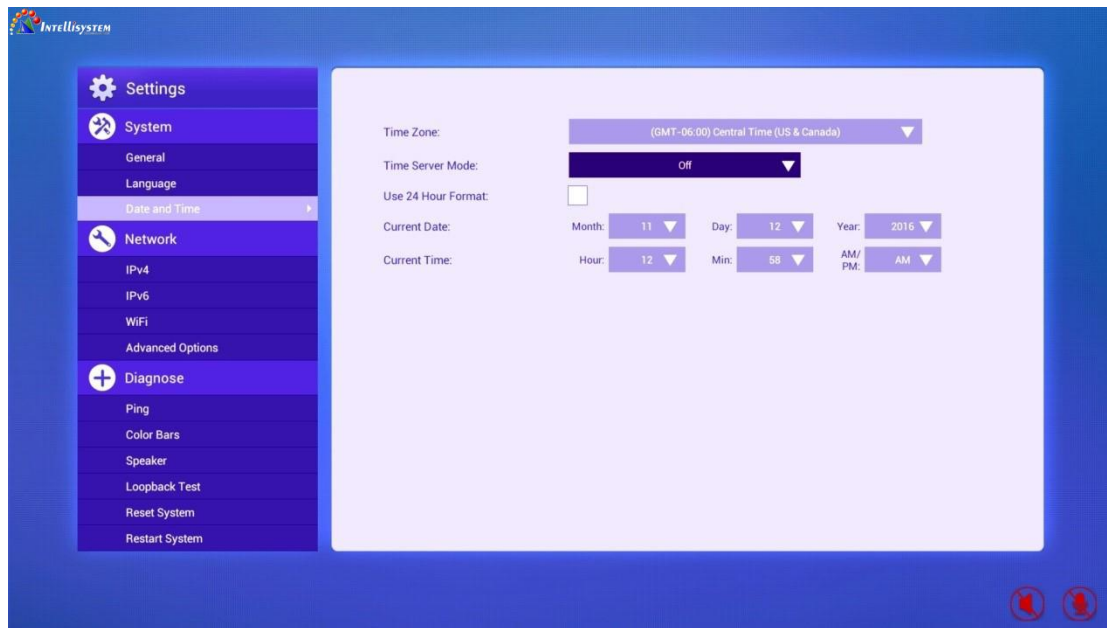

Figure 7-3-5
- Off: If this option is selected, the date and time of terminal shall be manually set, as Figure 7-3-5 shows.